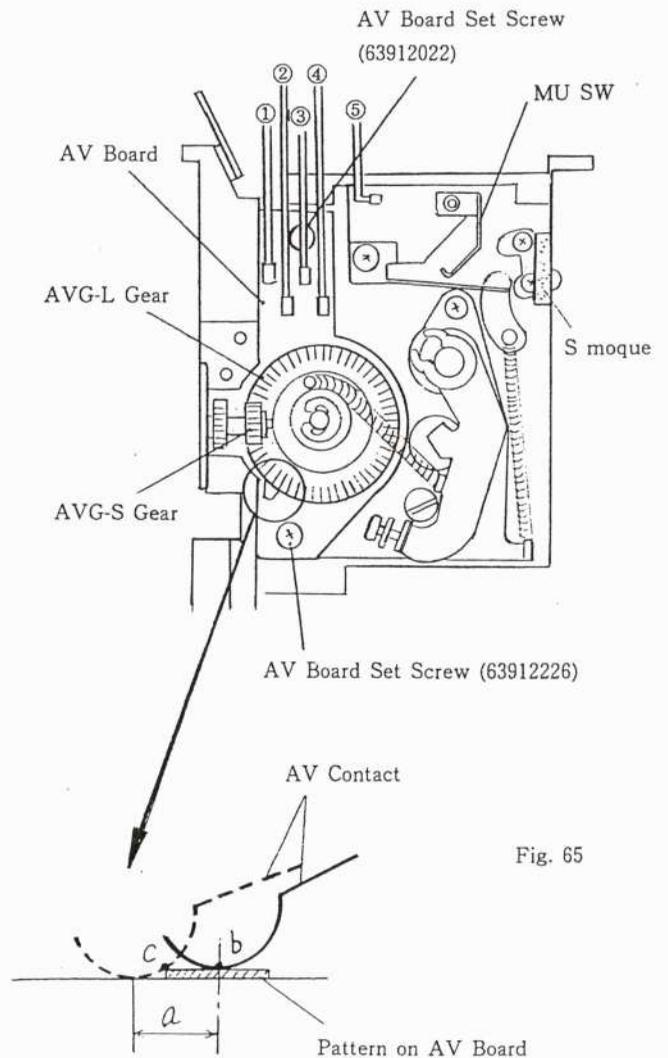

Fig. 65
- 2) Engage the AVG-L gear with the AVG-S Gear so that the AV contact is positioned as shown in Fig. 65. Then tighten the AV board Set Screws (63912022) and (63912226).
- 3) When the FS Ring is turned to the open (Fl. 4) position, the AV Contact must be positioned as shown in Fig. 65.